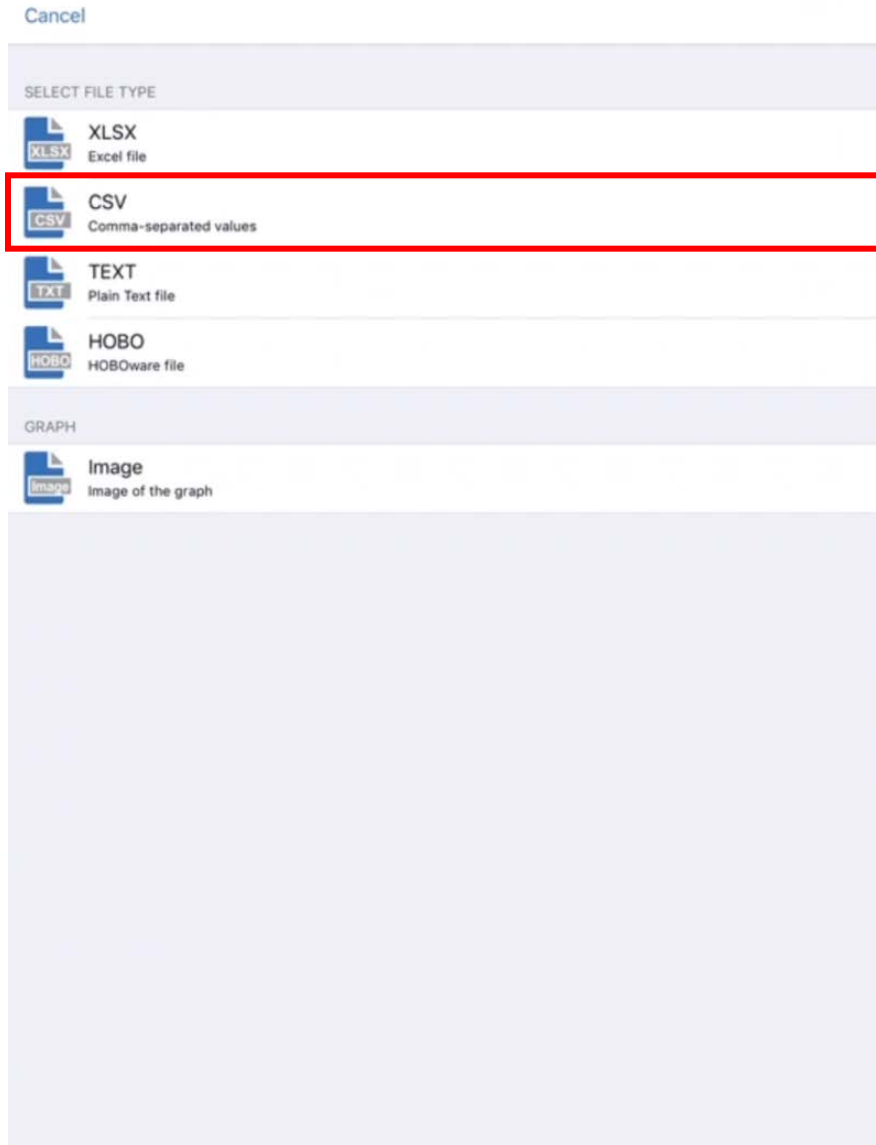

Figure A.6.22: The HOBOMobile “Share” screen.
- At the “Share” screen. Tap the “CSV” option, boxed in on Figure A.6.22. Make sure that your iOS or Android device is connected to the internet before proceeding.